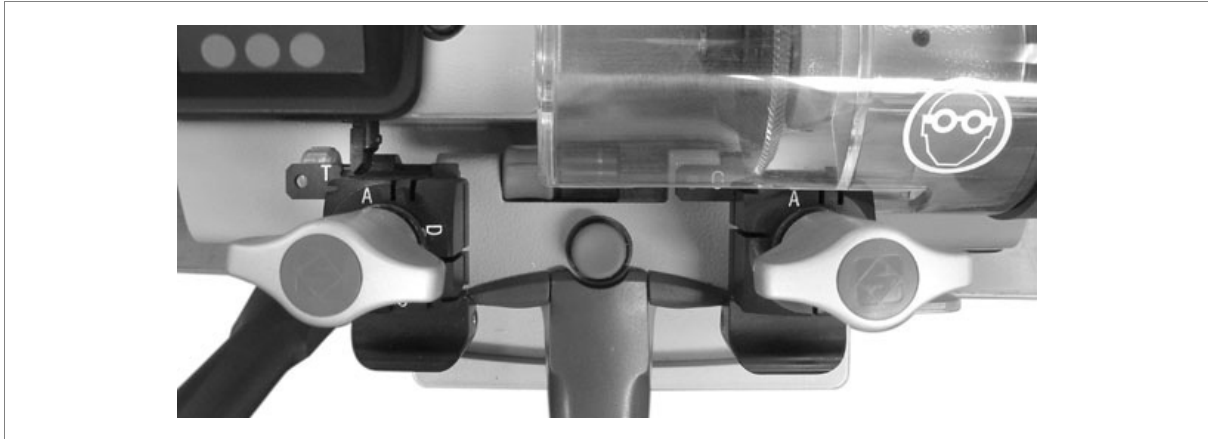

Fig. 15
- 5) Take the templates in contact with cutter and tracer point (fig. 15, page 16).